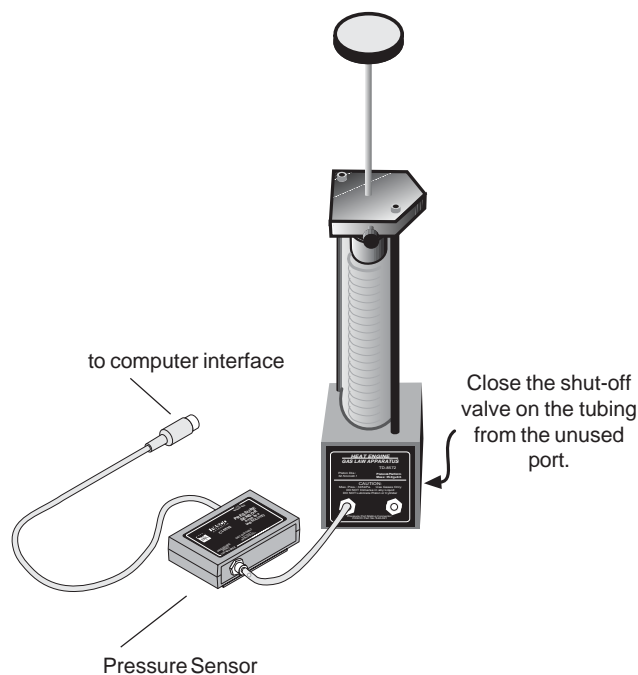

Figure 3.1. Experimental setup
- ① With the platform raised to its uppermost position, connect the Pressure Sensor to a port on the base apparatus with a short piece of tubing (Figure 3.1).
- ② Close the shut-off valve on the tubing from the unused port.
- ③ Connect the Pressure Sensor to the computer interface and set up *Science Workshop* to record pressure. Be sure that you set up the keyboard sampling option so you can enter height data by hand. (Consult the *Science Workshop User's Guide*, "Keyboard Sampling," for details.)